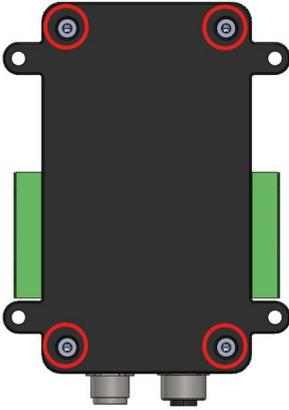

Figure 72. Remove these screws to access the PCB
- Remove the four screws on the bottom side of the enclosure using an M3 Torx screwdriver (see Figure 72).